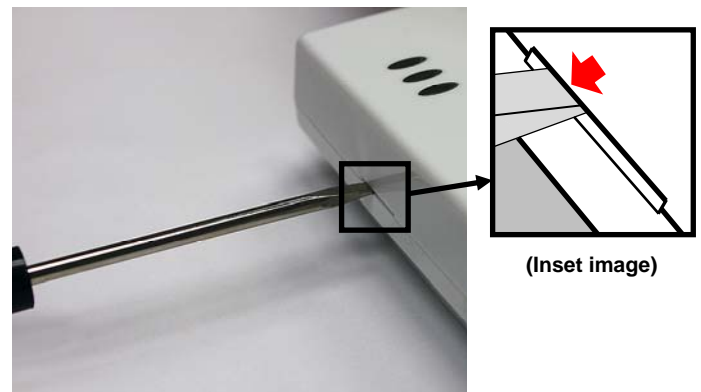

Fig. 2: To separate rear housing from cover
2. Insert a small flat-head screwdriver into the slots at the bottom and twist while applying inward pressure (see Fig. 2; insert the screwdriver closer to the edges of the unit, as shown in the Fig. 2 "inset" image).